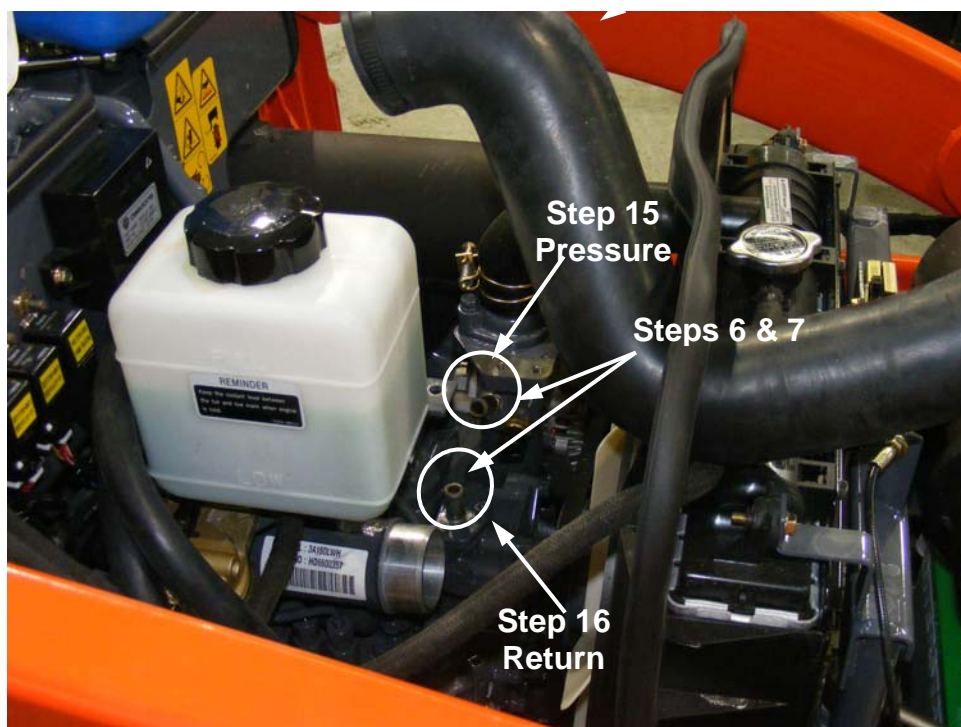

Figure 1
4. Loosen rubber air cleaner intake hose and rotate. See Figure 1.
6. Remove water pump bypass hose. See Figure 1.
7. Attach (2) ½" x 48" long heater hoses to each water-pump bypass nipple. Route hoses to RH side of cab. See Figure 1.
15. Connect the 5/8" x 18.00" long heater hose from top of H-valve to the 1/2" x 48.00" long hose that routes from the top water pump nipple using (1) 5/8" to 1/2" hose reducer fitting and (2) No.10 hose clamps. See Figures 1 & 2.
16. Connect the remaining 5/8" x 18.00" long heater hose from bottom of H-valve to remaining 1/2" x 48.00" long hose that routes from the return water pump nipple using (1) 5/8" to 1/2" hose reducer fitting and (2) No.10 hose clamps. See Figures 1 & 2.